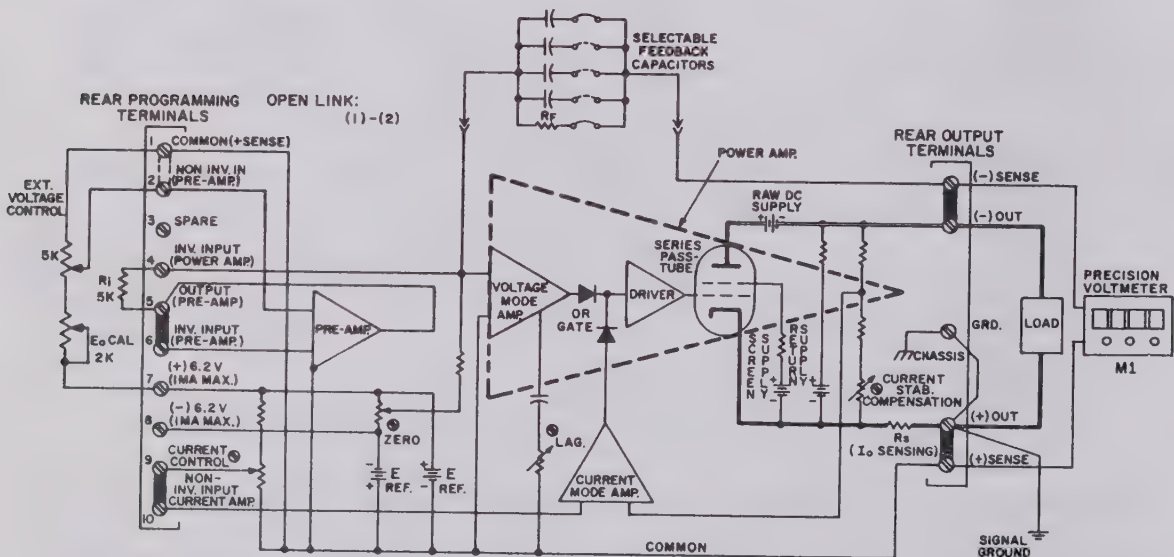

FIG. 3-7 CONNECTIONS FOR OPS OUTPUT VOLTAGE CONTROL WITH A POTENTIOMETER.
- 1) Connect the potentiometer (EXTERNAL VOLTAGE CONTROL), the calibrating rheostat (E_o CAL.), the LOAD and the OUTPUT VOLTMETER (M1) to the OPS as shown in FIG. 3-7. FOR INTERCONNECTION DETAILS AND PRECAUTIONS, TURN TO THE "WARNING" PARAGRAPH ON PAGE 3-3.